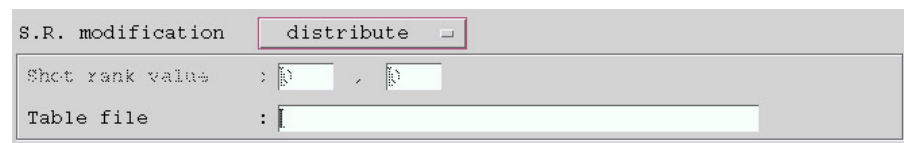

Fig. 80 Shot-rank modification area
- distribute:**  You can enter only numbers. Lets you specify the shot-rank table file name (see Figure 80). You can specify a device and directory for the file name. The default device and directory is the current directory.